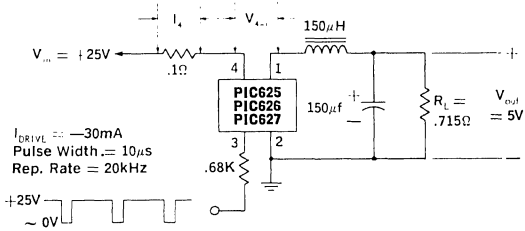

Figure 1. PIC625, 626, 627 Switching Speed Circuit
- The efficiency is a measure of internal power losses and is equal to Output Power divided by Input Power. The switching speed circuit of Figure 1., in which the efficiency is measured, is representative of typical operating conditions for the PIC600 series switching regulators.